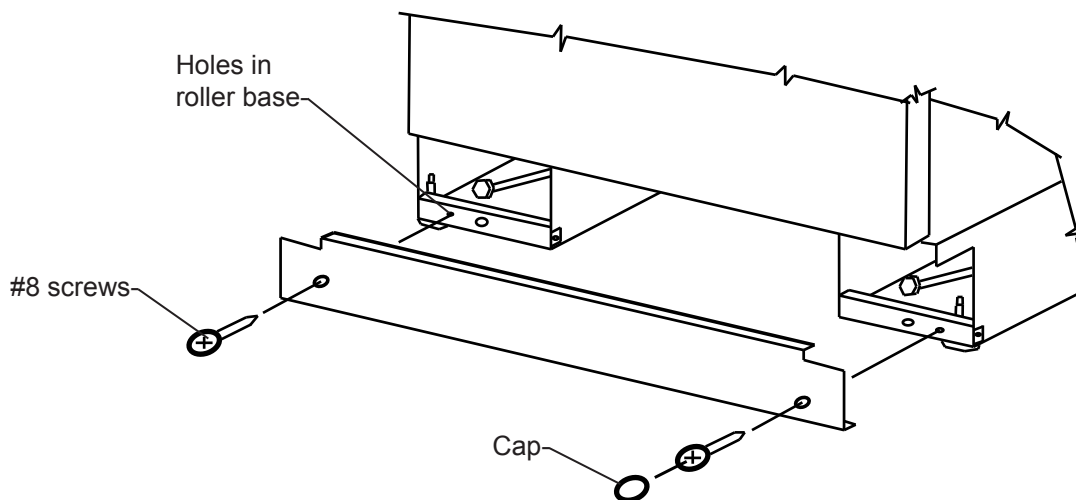

Figure 31
Use two (2) #8 sheet metal screws (supplied) to facilitate holding your kick plate in place. Mount screws in holes in roller base. Cover screw heads with caps supplied. (See Figure 31).